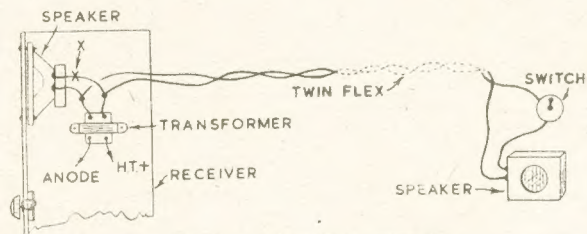

Fig. 2—Low-impedance extension
If a moving-coil speaker with no coupling transformer is to be used, then the connections shown in Fig. 2 should be adopted. Twin flex is taken from the secondary of the transformer to the extension speaker, a switch again being put in circuit if desired. This switch may be mounted on the speaker cabinet.
If it is required that the extension speaker should operate alone, the speaker in the receiver may be silenced by connecting a switch in the lead at the point marked (X) in Fig. 2. Some receivers have provision for this on the back. Extension Speaker sockets may also be fitted, and this will simplify connections.
leads should, therefore, be used, though twin flex is suitable for Fig. 2, where the impedance is low.